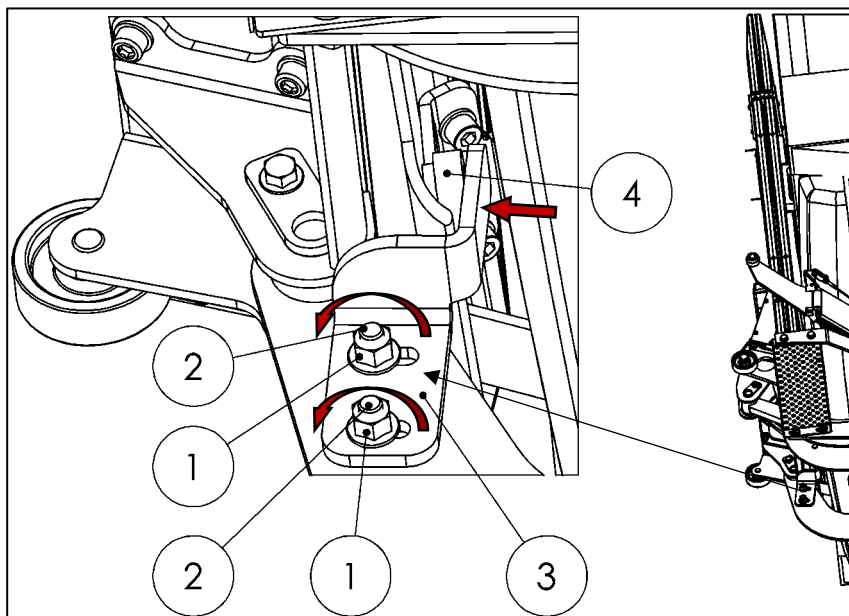

Fig. 80
- Loosen the nuts (1) and bolts (2) on the stopper (3).
- Press the stopper (3) firmly against the plastic disk (4) (see Fig. 80).